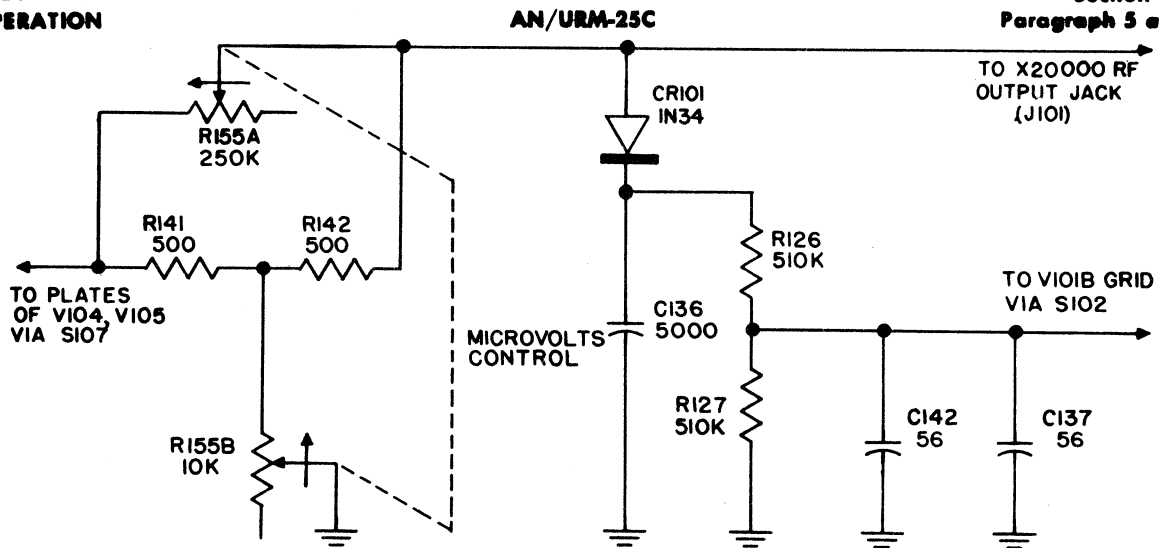

Figure 2-5. Simplified Schematic Diagram of the RF Diode
a. RF CRYSTAL DIODE. (See figure 2-5).
(1) The RF crystal diode (CR-101) rectifies the carrier output signal of the buffer-amplifier (V-104, V-105) which is then applied to the voltmeter bridge (V-101) circuit. The strength of this RF signal is indicated on the meter (M-101)
(2) CR-101 is a germanium crystal diode type IN34. The RF voltage is taken from the plate circuit of the buffer-amplifier (V-104, V-105) and applied across CR-101 through a T pad described in paragraph 6i of this section.